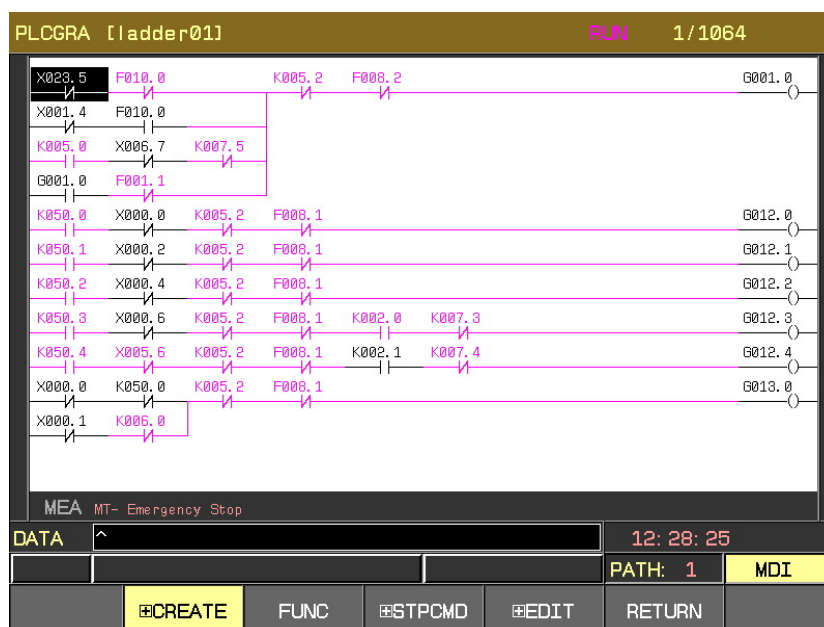
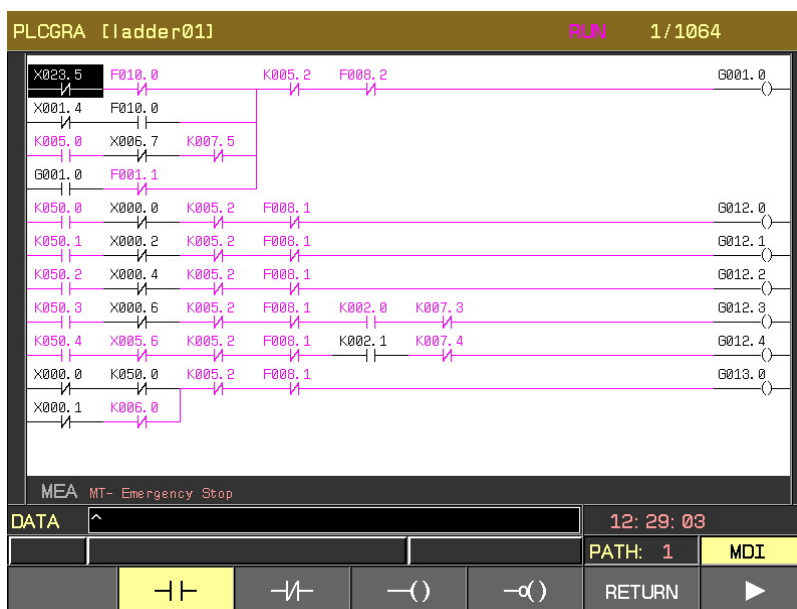
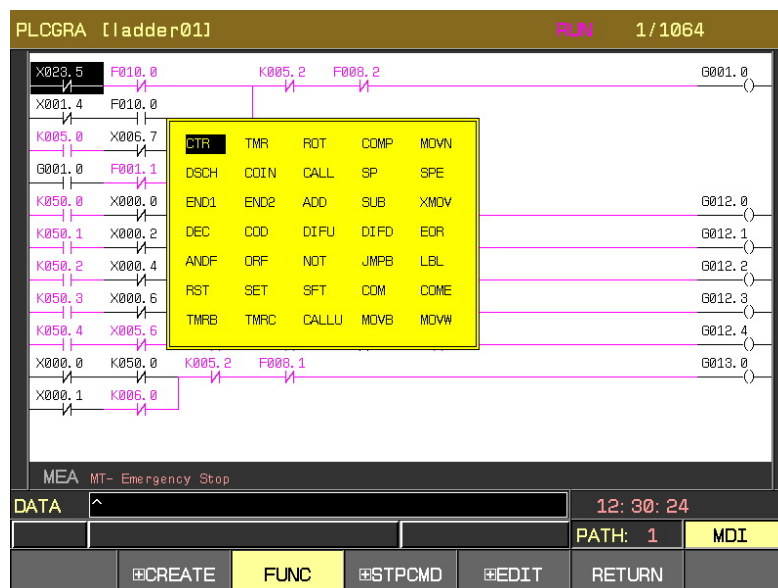

Fig. 2-1-1
Fig. 2-2-1
Fig. 2-4-1
1. Enter PLCGRA classification interface pressing **[PLCGRA]** twice, refer to the **Fig. 2-1-1**:
Enter the basis command operation interface pressing the **[Basis command]** soft key in the **Fig. 2-1-1**. Refer to the **Fig. 2-2-1**.
Press the **[Function command]** soft key in the Fig. 2-1-1, then enter the function code operation interface, refer to the Fig. 2-4-1.
In the PLCGRA interface, as the **Fig. 2-1-1**. Press the **[Command table]** soft key again, and then enter the command table classification operation interface, refer to the **Fig. 2-5-1**.